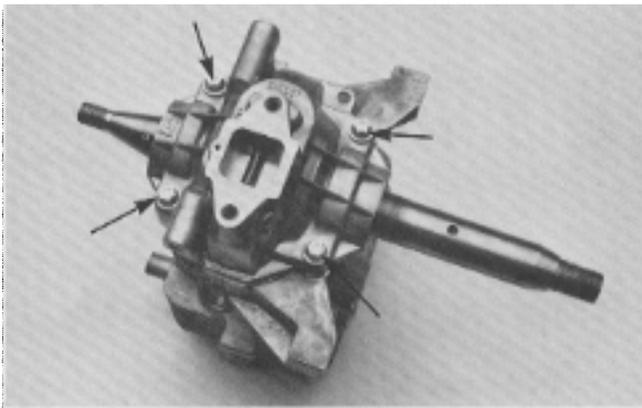

Figure 69
1. Remove the four crankcase cap screws with a Torx No. E-12 socket and separate the halves using a screwdriver (**Figure 69**).